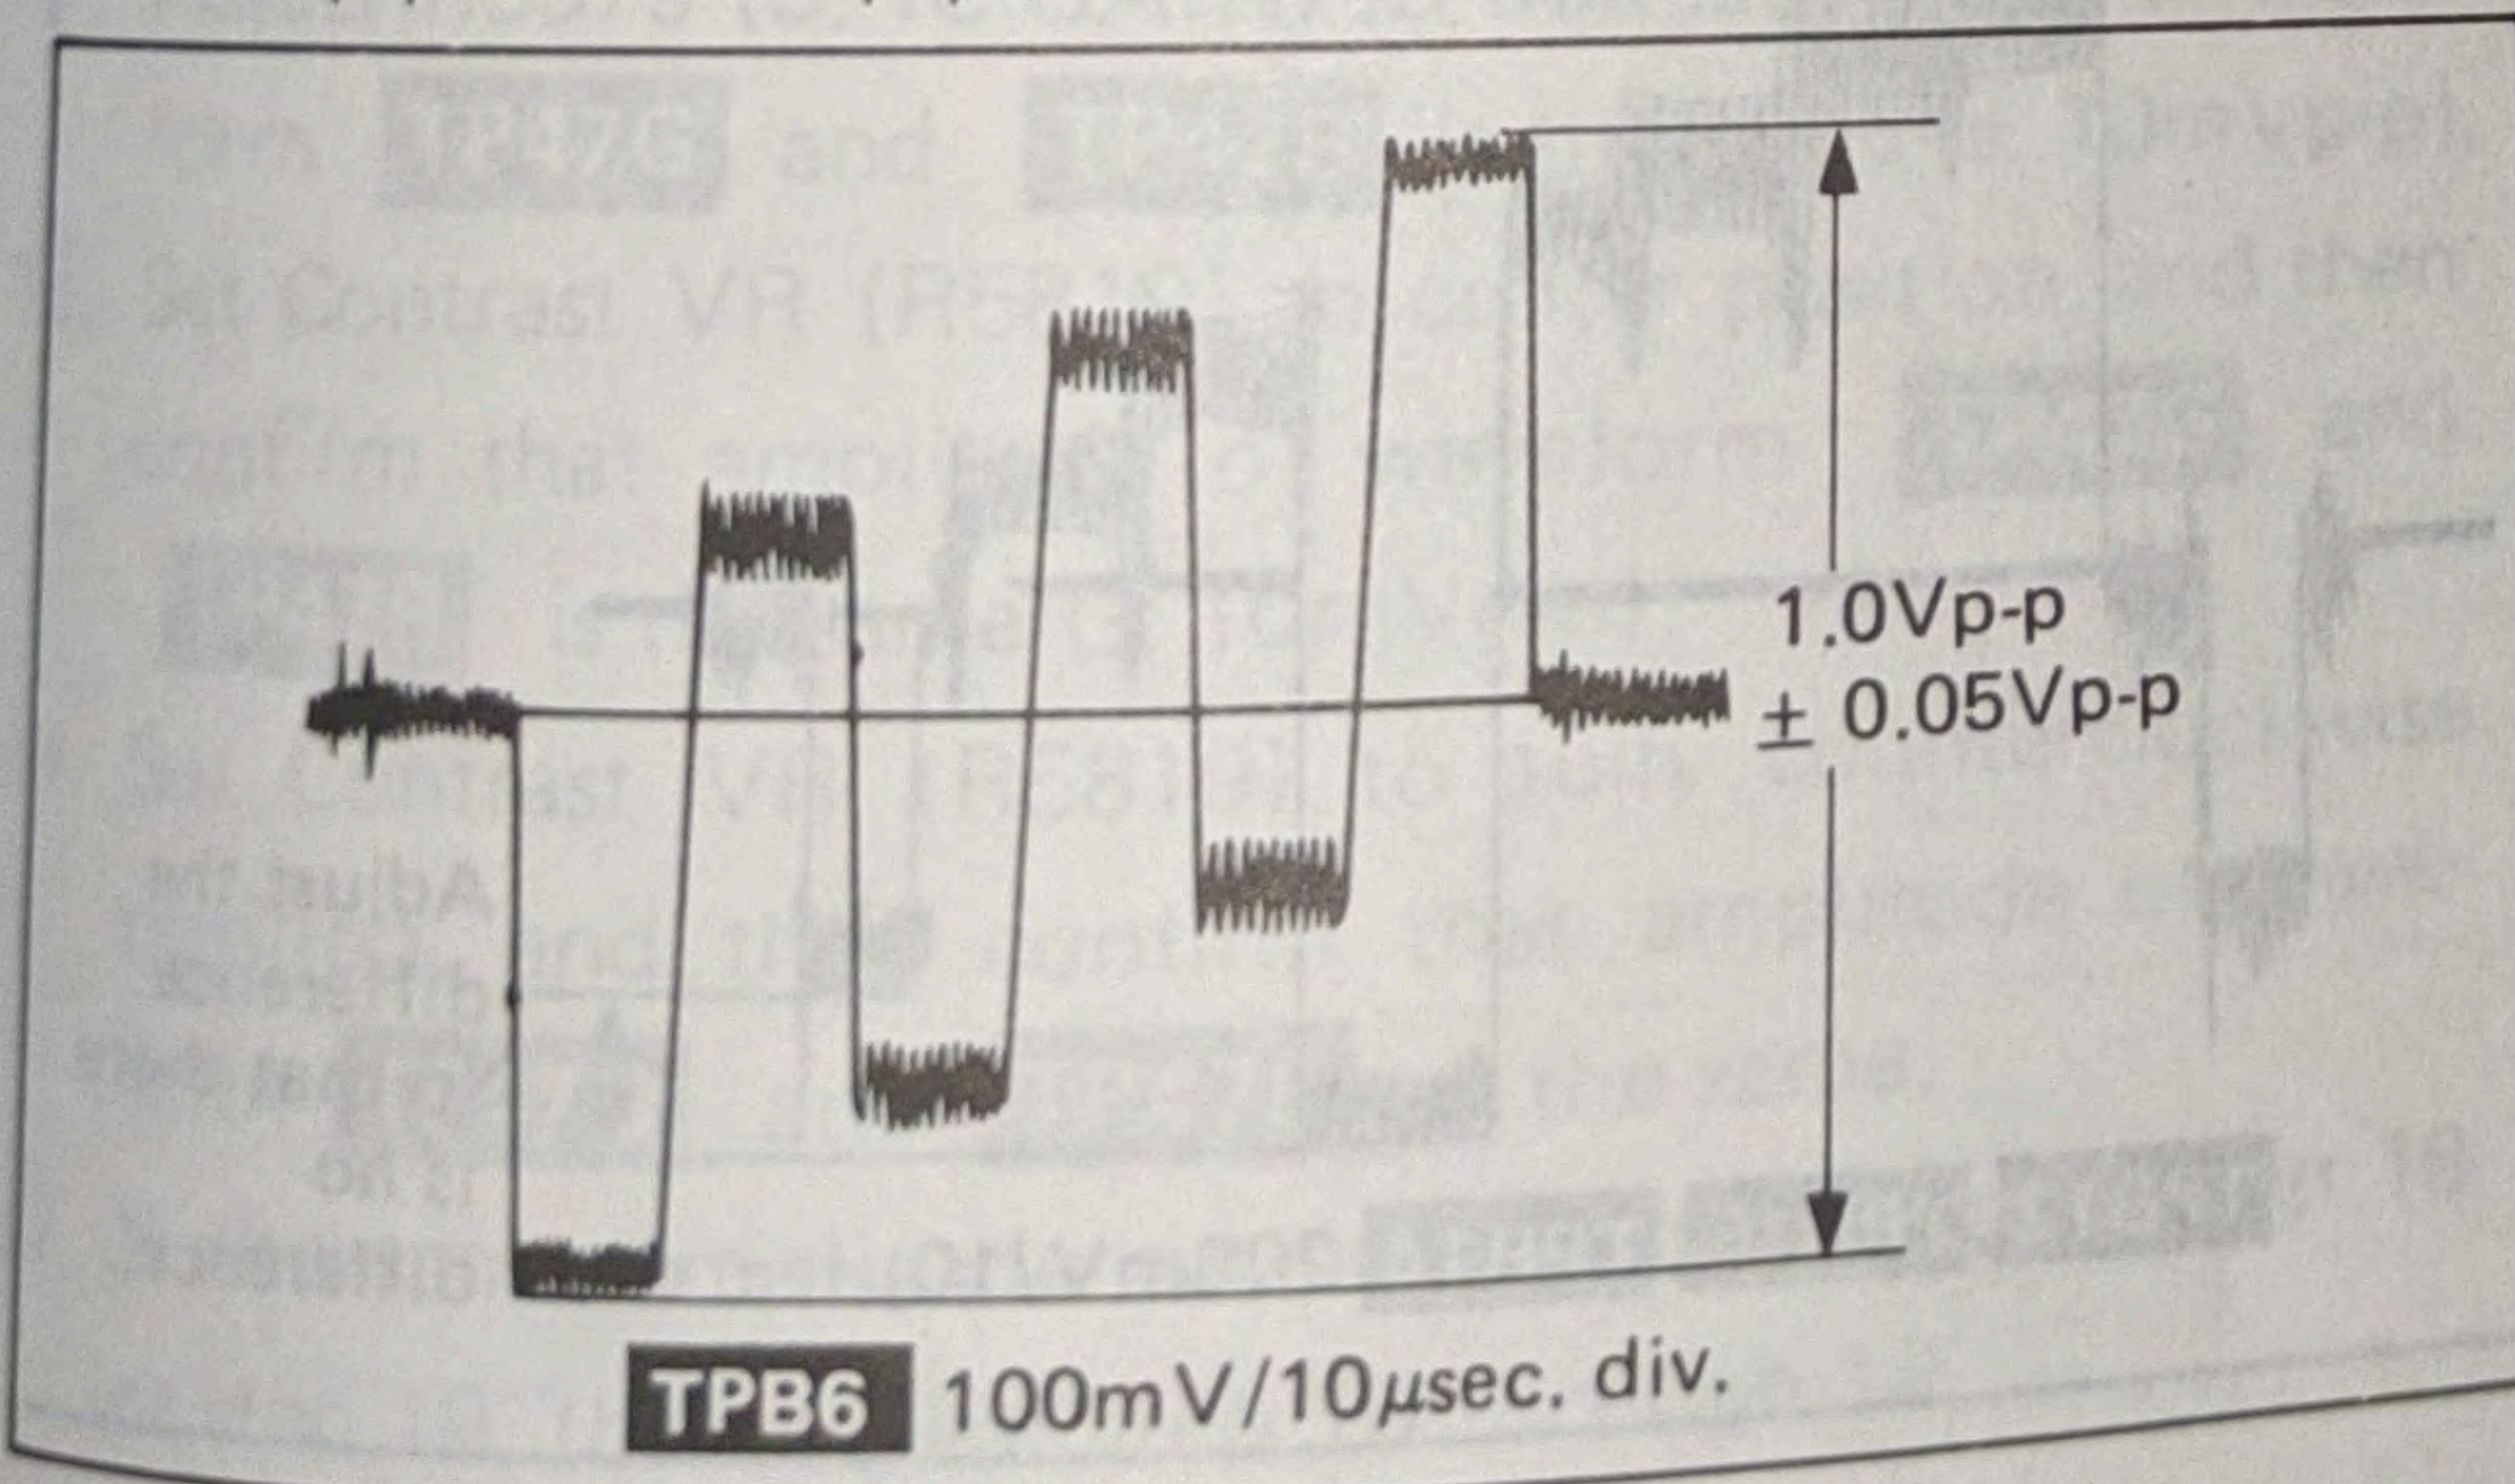

Fig. 37
- Adjust R619 (SUB. Chroma) so that the **TPB6** becomes $1.0Vp-p \pm 0.05Vp-p$ as shown in Fig. 37.